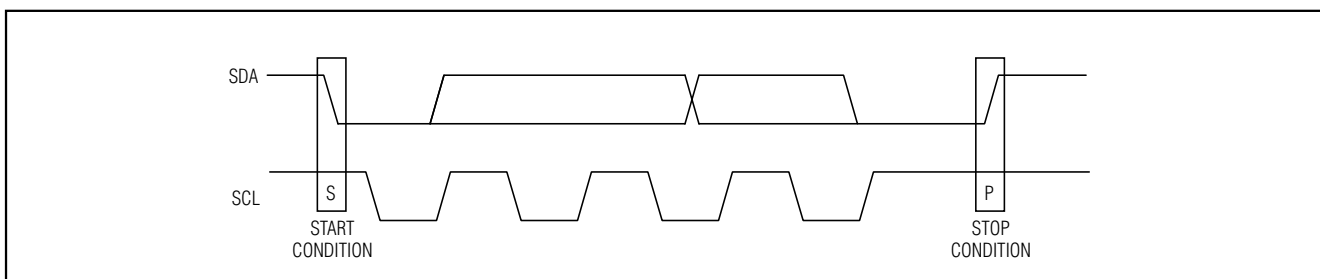
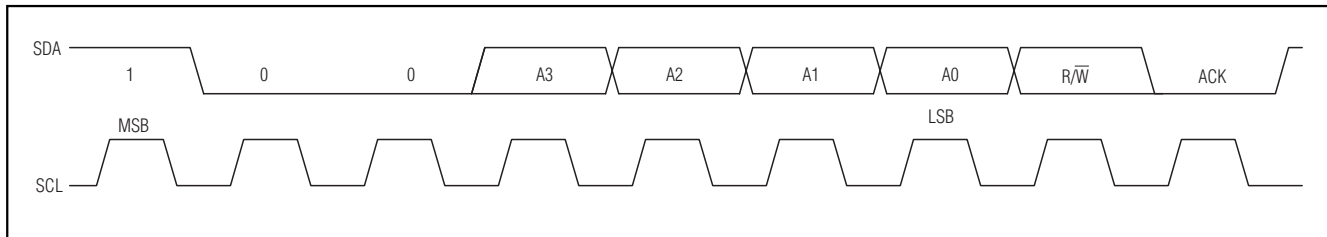

Figure 3. Start and Stop Conditions
Figure 6. Slave Address
Each transmission consists of a START condition (Figure 3) sent by a master, followed by the MAX7300 7-bit slave address plus R/W bit (Figure 6), a register address byte, one or more data bytes, and finally a STOP condition (Figure 3).
Both SCL and SDA remain high when the interface is not busy. A master signals the beginning of a transmission with a START (S) condition by transitioning SDA from high to low while SCL is high. When the master has finished communicating with the slave, it issues a STOP (P) condition by transitioning SDA from low to high while SCL is high. The bus is then free for another transmission (Figure 3).
The MAX7300 has a 7-bit-long slave address (Figure 6). The eighth bit following the 7-bit slave address is the R/\bar{W} bit. It is low for a write command and high for a read command.